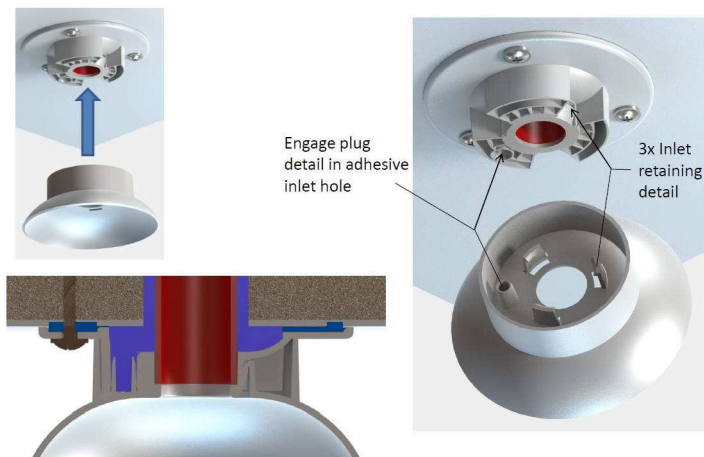

Figure 5 – Mounting of inlet
9. Fit the inlet to the inner gland (bottom flange) which also plugs the adhesive inlet hole, see Figure 5.